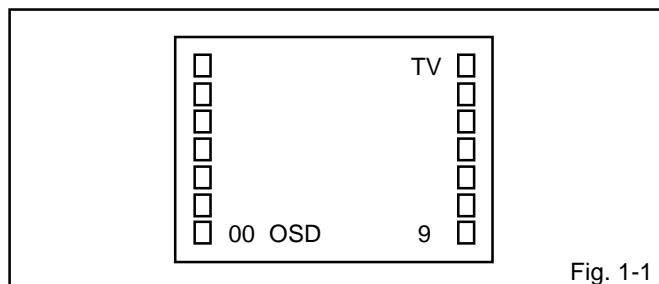

Fig. 1-1
2. Press the VOL. DOWN button on the set and the Channel button (9) on the remote control for more than 2 seconds to appear the adjustment mode on the screen as shown in Fig. 1-1.
5. Activate the adjustment mode display of **Fig. 1-1** and press the channel button **(02)** on the remote control to select "CUT OFF".